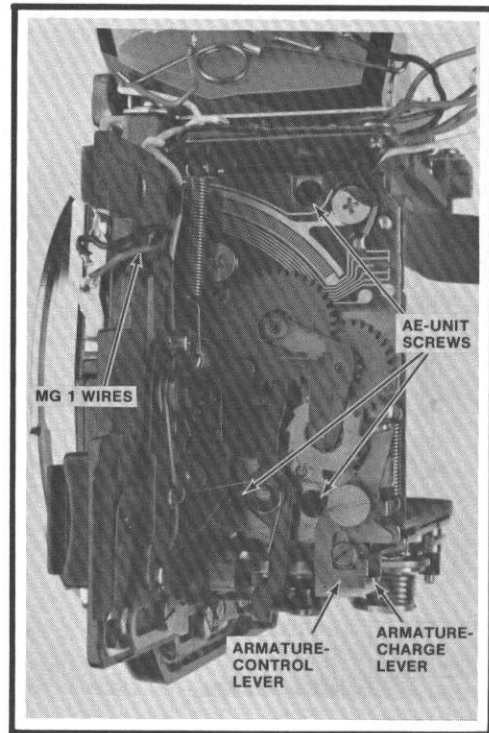
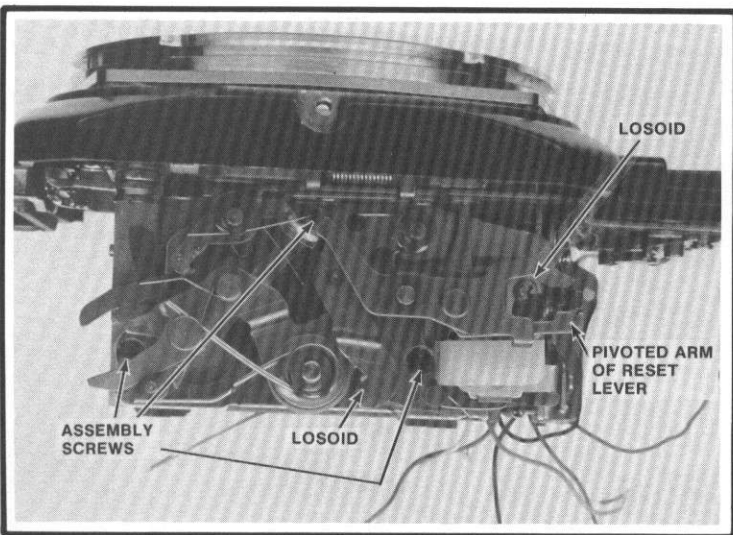

Figure 54
Figure 56 Auto Diaphragm Unit
3. Pull the red and black MG1 wires loose from the cement on the back of the front plate, Fig. 54. The wires remain attached to MG1. You'll find it easier to reroute the wires if you first remove the stop-down slide.
5. Remove the three screws holding the AE unit, Fig. 54. The screws for the AE unit are longer than the screws holding the other two units. Now pull the AE unit a slight distance from the mirror housing—that moves MGI away from one of the screws holding the auto-diaphragm unit, Fig. 56.
6. Remove the three screws holding the auto-diaphragm unit, Fig. 56.
2. Assemble the AE unit to the auto-diaphragm unit. Make sure the pivoted arm of the reset lever hooks behind the S.AVE-contact latch, Fig. 56. Also hook the armature-charge lever behind the lower end of the armature-control lever, Fig. 54.